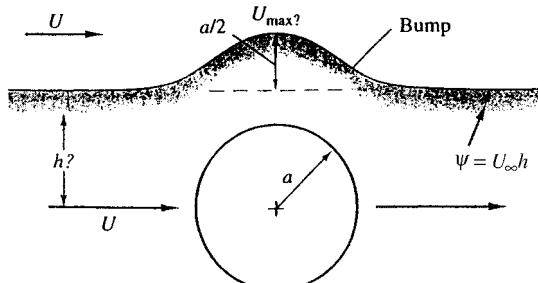

Fig. P8.50
**8.50** It is desired to simulate flow past a ridge or “bump” by using a streamline *above* the flow over a cylinder, as shown in Fig. P8.50. The bump is to be  $a/2$  high, as shown. What is the proper elevation  $h$  of this streamline? What is  $U_{max}$  on the bump compared to  $U_\infty$ ?